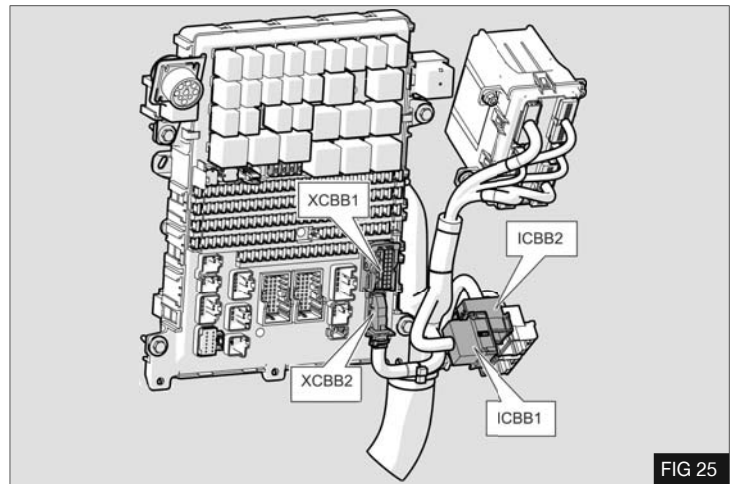

FIG 25
3. Make connections in socket **XCBB1** within the Electrical Junction Box (EJB). - Figs 25 & 26
1. Locate connector ICBB1. - Fig 25